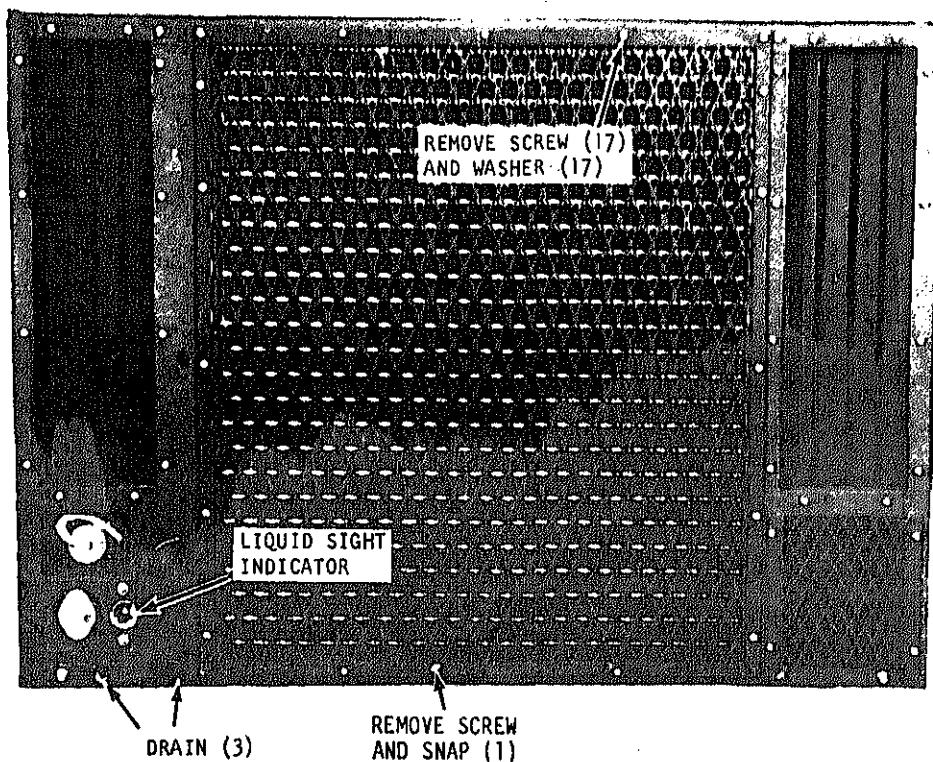

Figure 4-3. Condenser guard removal and installation
(1) Refer to figure 4-3 and condenser guard.
(2) With guard removed, will condenser coil clean.